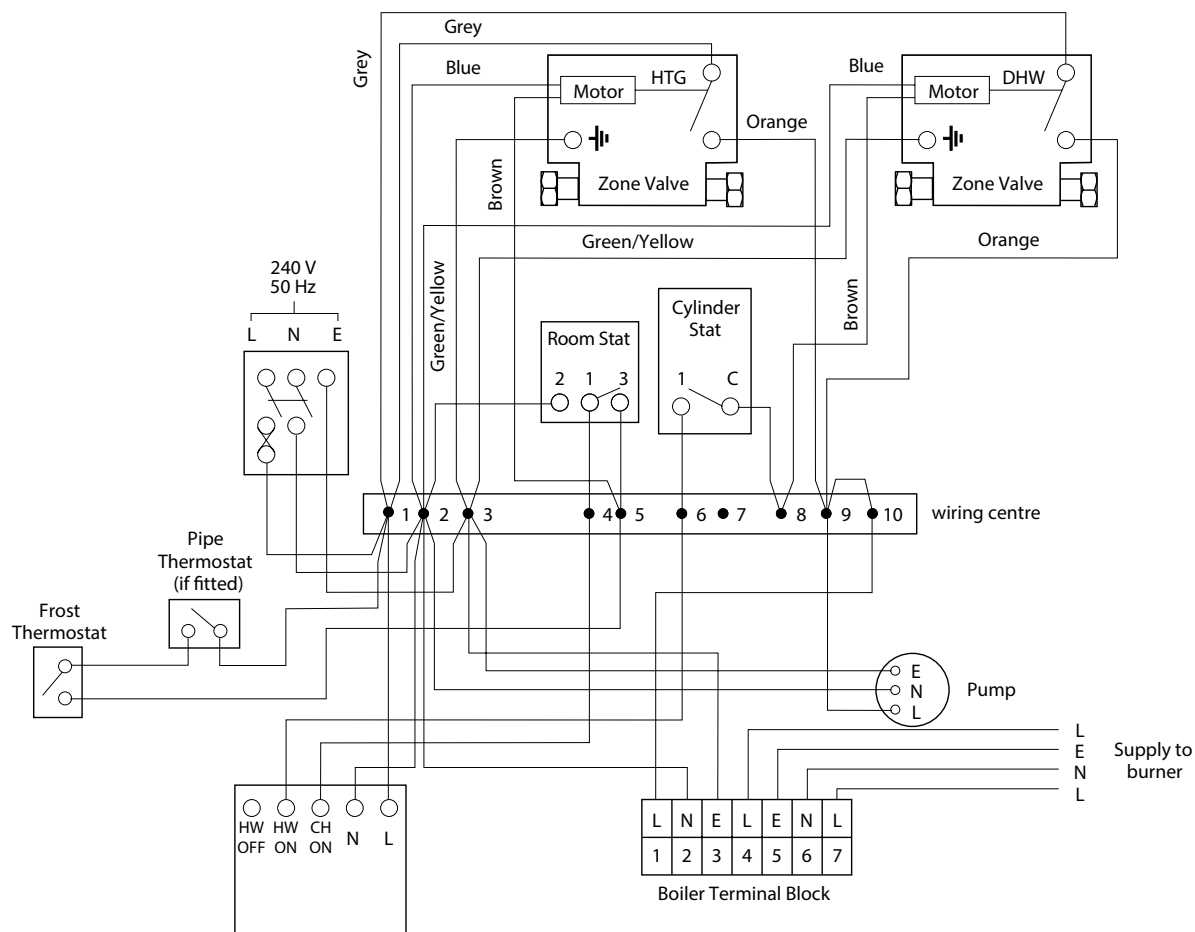

Figure 8-1: Internal wall hung - 2 X 2-port valve control system
Refer to Figures 8-1 to 8-4 for typical control system wiring diagrams for all models.
Refer to Figures 8-1 to 8-4 for typical control system wiring diagrams.
4. Make the remaining required connections to the control panel, as detailed in Figures 8-1 to 8-4.
Refer to Figures 8-1 to 8-4 (as appropriate) for connection details.